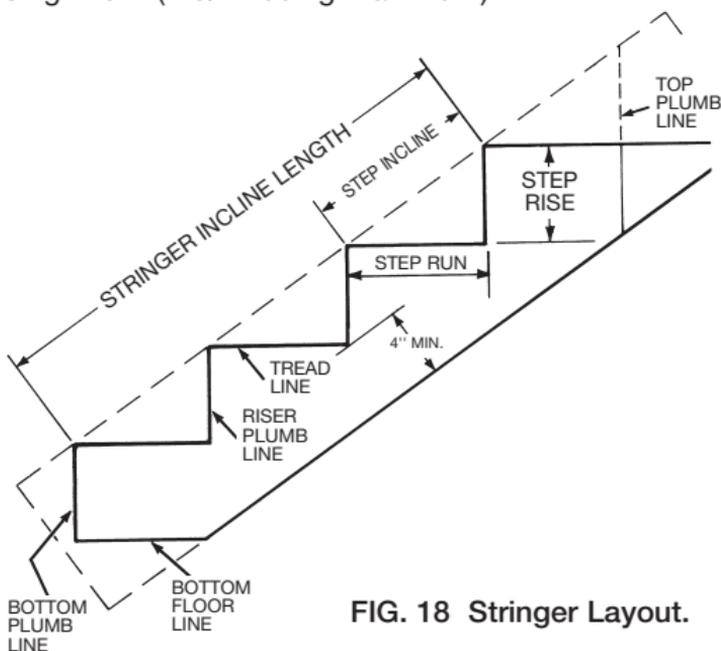

FIG. 18 Stringer Layout.
The ideal inch rise is 7 or 8 (or 30° to 35°) but may be from a 5-inch rise to a 14-inch rise depending on the circumstances. The step rise or run may be modified if the run becomes impractical or if the minimum head room is under 6 1/2 ft. Check the head room by measuring down along a plumb line dropped from the lowest ceiling point to where the tread beneath would be. To find the tread height, count the number of steps necessary to get under the plumb line and then multiply by the step rise. Another consideration is to have a minimum of 4" from the inside corner of the step to the bottom edge of the stringer (See Figure 18). A quick test is to use the square as you did for the common rafter top plumb cut (using the step inch rise) and make a plumb line the distance of the step rise, then measuring from the end of the plumb line directly to the edge of the stringer.
STEP 2. LAYOUT STRINGER: First, find the step incline length (see Figure 18) by using the following formula:
Now, draw the bottom plumb line using your inch rise on the common scale of the square, exactly as you did for the common rafter (see Figures 18 and 19). If you wish to conserve wood, adjust the bottom plumb line so that its length is equal to the step rise. Next draw the bottom floor line by measuring down the bottom plumb line the distance of the step rise minus the tread thickness. In our example, with a 1" tread; 7.29" minus 1.00" giving you 6.29", or 6 5/16". Use the square the same way as you did for the bird's mouth horizontal seat mark
(see Figures 7 and 19). The outside step corners should now be marked off (again see Figure 18). Starting from the bottom plumb line, measure up along the top edge of the stringer the distance of a step incline. Repeat this for each step corner, until you've reached the stringer incline length. Make another step incline mark for a top plumb line.